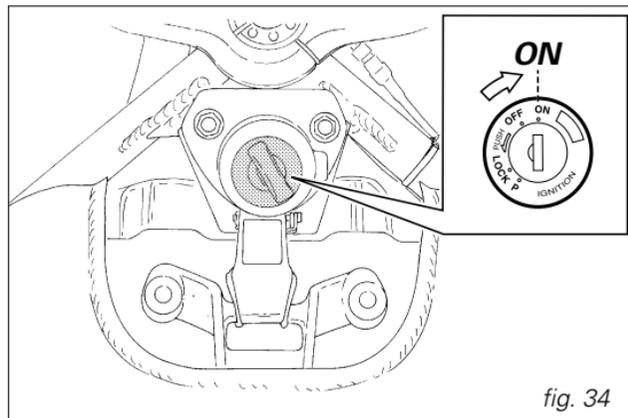

fig. 34
1) Move the ignition key to **ON** (fig. 34). Make sure both the green light **N** and the red light  on the instrument panel come on.